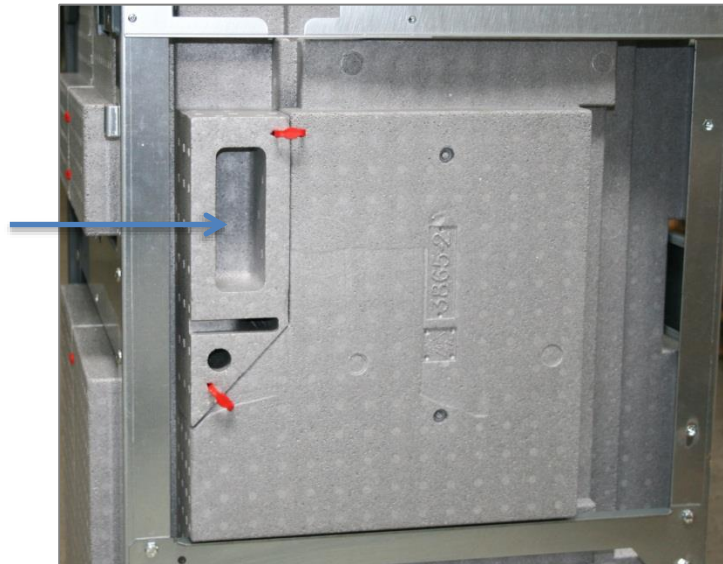

Figure 10: Remove this insulation (see pointing arrow)
- Remove the insulation of the hot water tank (400 V heat pump), see figure 10.